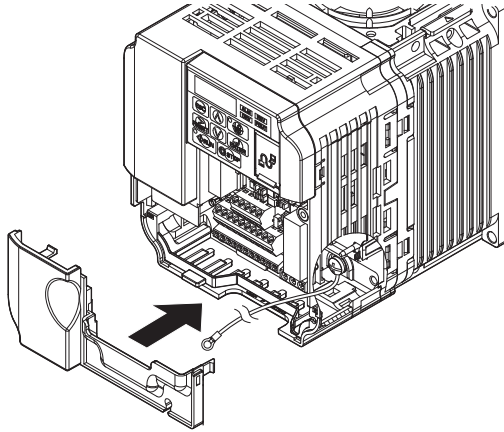

Figure 13 Reattach the Terminal Cover
10. On models CIMR-V□BA0006□ to BA0018□, 2A0008□ to 2A0069□, and 4A0001□ to 4A0038□, reattach the terminal cover. Refer to Figure 13 and Figure 14 for drive models CIMR-V□BA0006□ to BA0018□, 2A0008□ to 2A0020□, and 4A0001□ to 4A0011□, which require routing the ground wire through the provided notch when reinstalling the terminal cover.